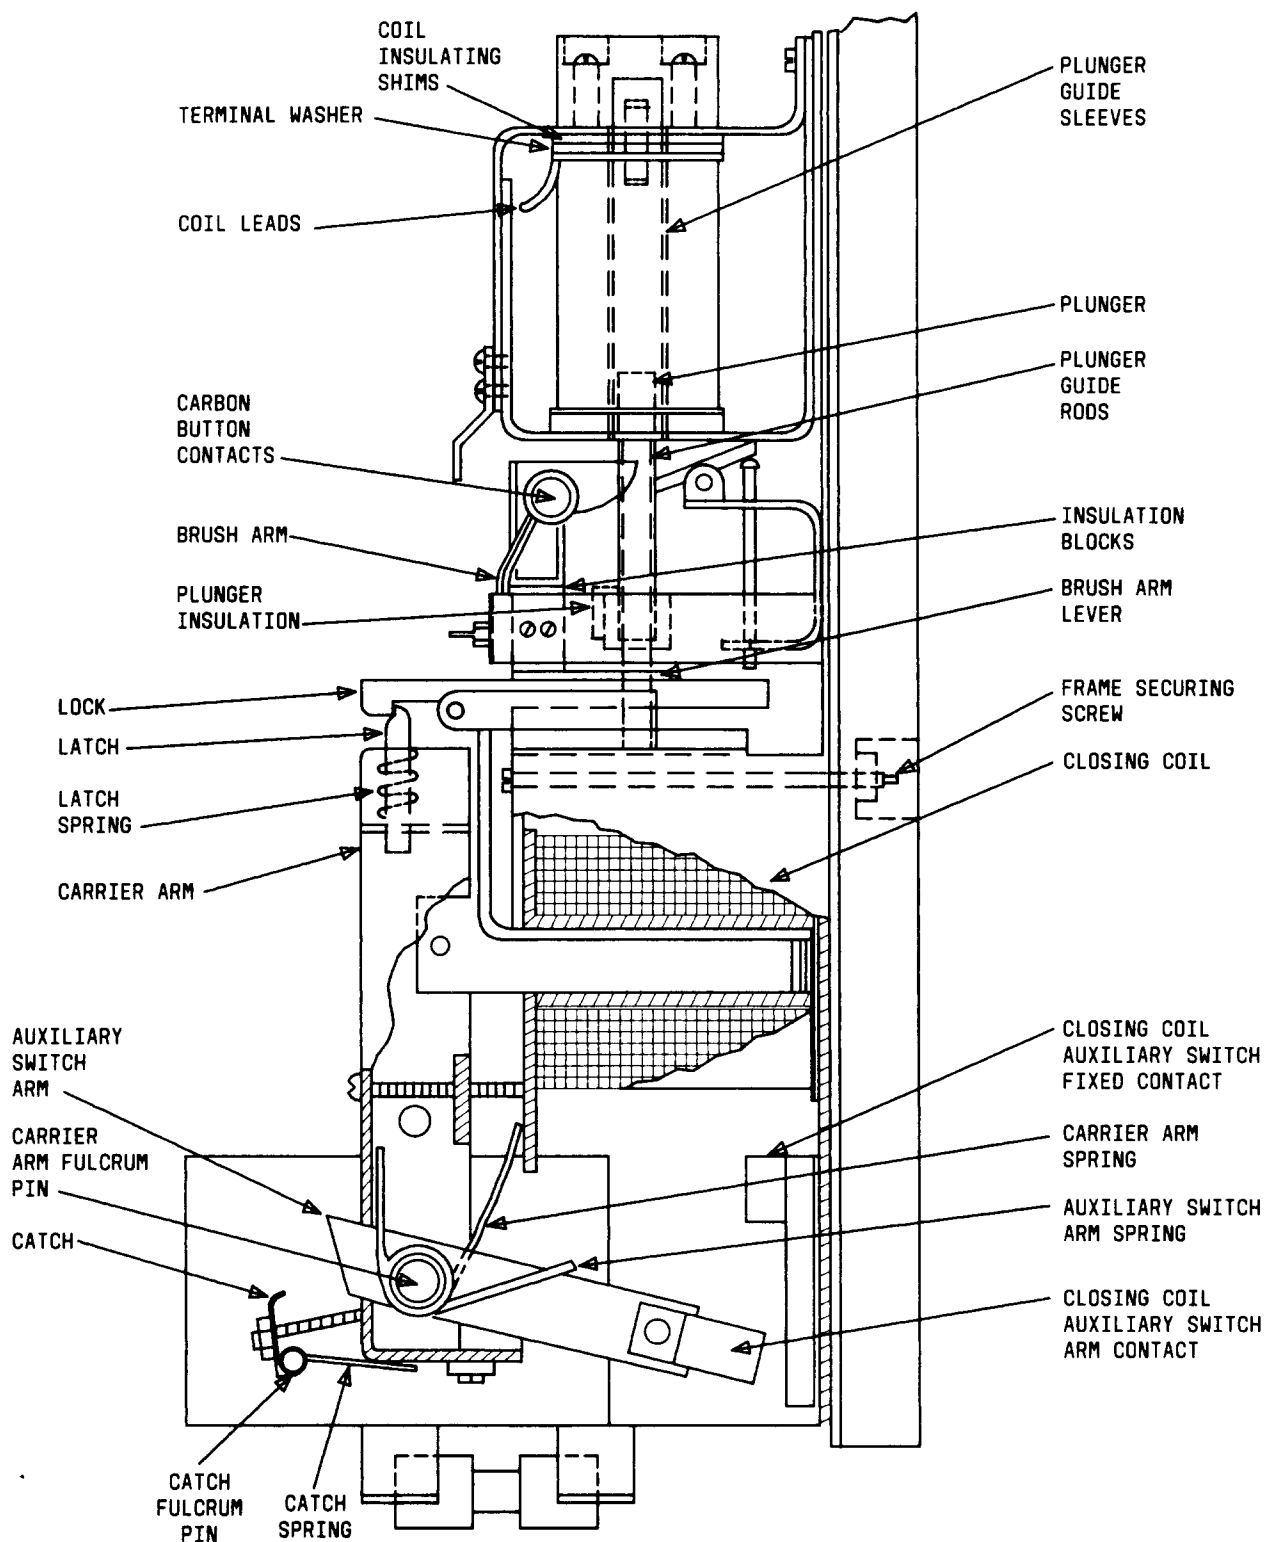

Fig. 8—Undervoltage Device and Contactor Mechanism (Main Contacts Closed, Old Version)
(1) To replace the catch or spring, remove the cover over the catch by taking out the small screws on the sides. Pull out the catch fulcrum pin through the catch. The catch or spring shown in Fig. 8 may then be replaced.
(2) The auxiliary switch arm and spring, the carrier arm and spring and the two bushings are all held in place by the carrier arm fulcrum pin which must be removed to replace any of these parts. It is also recommended that this fulcrum pin be removed when replacing the carrier arm latch or spring. It is practically impossible to assemble these parts in place in the switch and then insert the fulcrum pin. However, this can be done readily with the parts removed from the switch assembly and with the aid of a pin 1/4 inch diameter and 1-5/16 inch to 1-7/16 inch long and slightly rounded on
(3) Replace the necessary parts and assemble the carrier arm parts on the short fulcrum pin. Check that the latch pin and spring are lubricated slightly with vaseline to insure smooth action. Put the mechanism in place in the switch and push the short pin out with the regular pin. Be careful that the carrier arm spring is against the coil cover as shown in Fig. 8. The washers on the fulcrum pin on each side of the carrier arm can best be put in place with a screwdriver after the long pin is inserted. Put in the catch and connect the crossbar switch to the carrier arm.
- (1) Although the coil can be replaced with the switch mechanism in the cabinet, it is easier to remove the contactor switch and undervoltage device to a bench. This may be dismantled by designating and disconnecting the wires to the securing screws shown in Fig. 8.
- (2) With the mechanism on the bench, take off the nameplate cover and the small base panel mounting the fuse. Remove the catch and push out the carrier arm fulcrum pin with the short pin (1/4 inch diameter and 1-5/16 inch to 1-7/16 inch long as referred to in the previous heading) and take out the carrier arm mechanism as a unit. Note the position of the washers on the armature lock and take off the cover. Unsolder the coil connections, replace the coil and solder the connections. Assemble the parts in the reverse order.
(4) The coils may be readily replaced. Carefully solder the cut leads to the respective leads on the replacing coil. Cover the soldered joint with friction tape. Note that the coil insulation is put back in place and that the ends of the plunger guide sleeves are fitted into the coil casing on both ends. The plunger should be inserted so that it will be above the brush arm lever, as shown in Fig. 8, and so that the insulation will be next to the brush arm. In mounting the case, be careful that the plunger guide rods fit into their holes without binding. Assemble the parts and be sure that the leads do not bind the switch.